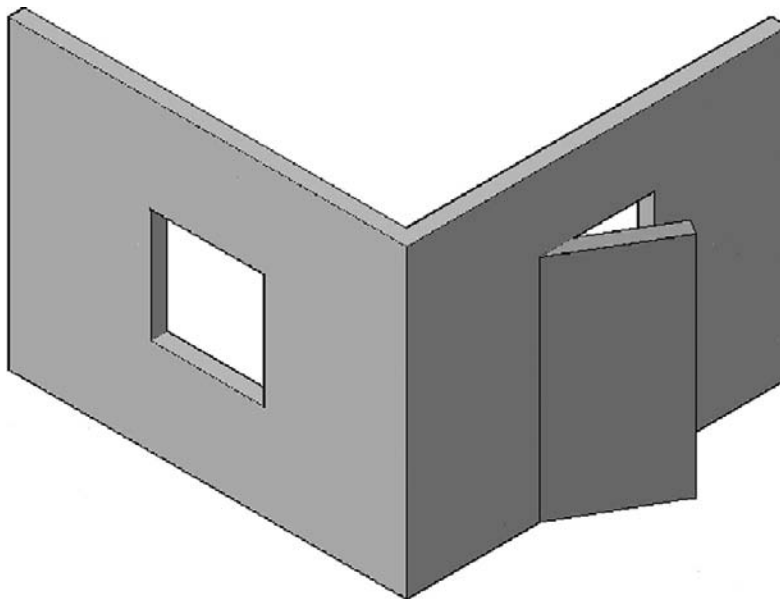

FIGURE 24.17
Step 7. Finally, let us put the copy of the door back where it belongs and give it a -30° rotation (yes, negative). The final result is in Figure 24.17.